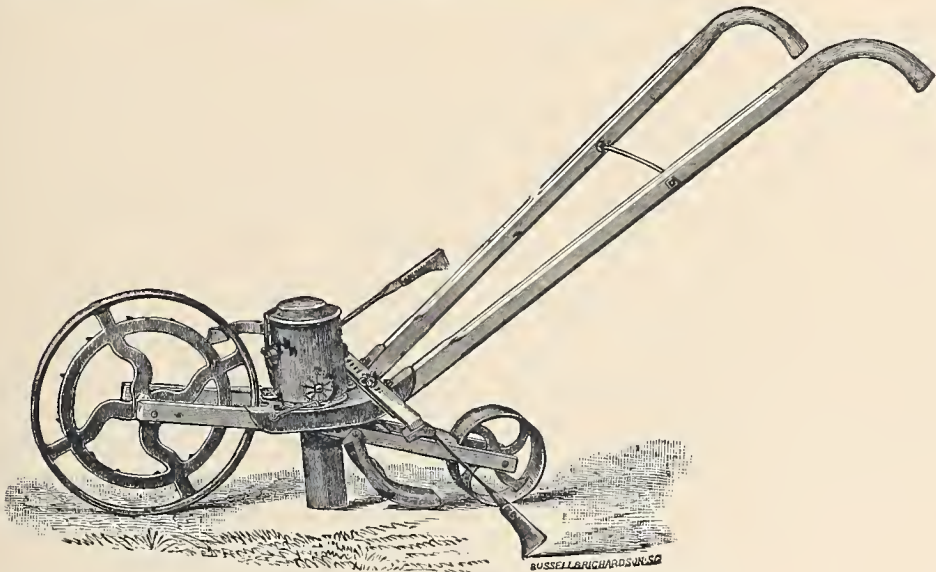

Fig. B 313. — Matthews Garden Drill.
*The Matthews Seed Drill*, illustrated in various forms at *Figs. B 313, B 314, B 315, B 316* and *B 317*, is designed to be used in field or garden. When in operation, it opens the furrow, drops the seed accurately at the desired depth, covers it and lightly rolls the earth down over it, and at the same time marks the next row, all of which is done with mechanical precision, by simply propelling the drill forward. In this way it sows with an evenness and rapidity impossible for the most skilful hand to do, all the different varieties of beet, carrot, onion, turnip, parsnip, sage, spinach, sorghum, peas, beans, broom corn, fodder corn, etc.
*The Matthews Garden Drill*, shown at *Fig. B 313*, is the standard drill of America. It is used and recommended by the leading seedsmen and they say that none better can be procured. Medals and testimonials confirming its superiority over all other drills have been repeatedly bestowed upon it from all quarters, and as it has been improved from time to time, it is now everywhere acknowledged to be the most perfect drill made. It has been many years in use, and its still increasing sale is the best evidence of its merits.